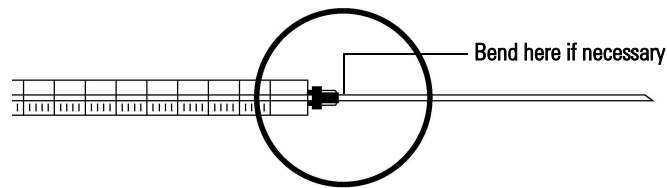

Figure 31 Inspecting the syringe
- 1 Roll the syringe on the edge of a clean flat surface. If the tip of the needle moves in a circle, straighten the shaft by bending it slightly near where it connects to the syringe barrel and check it again (Figure 31).